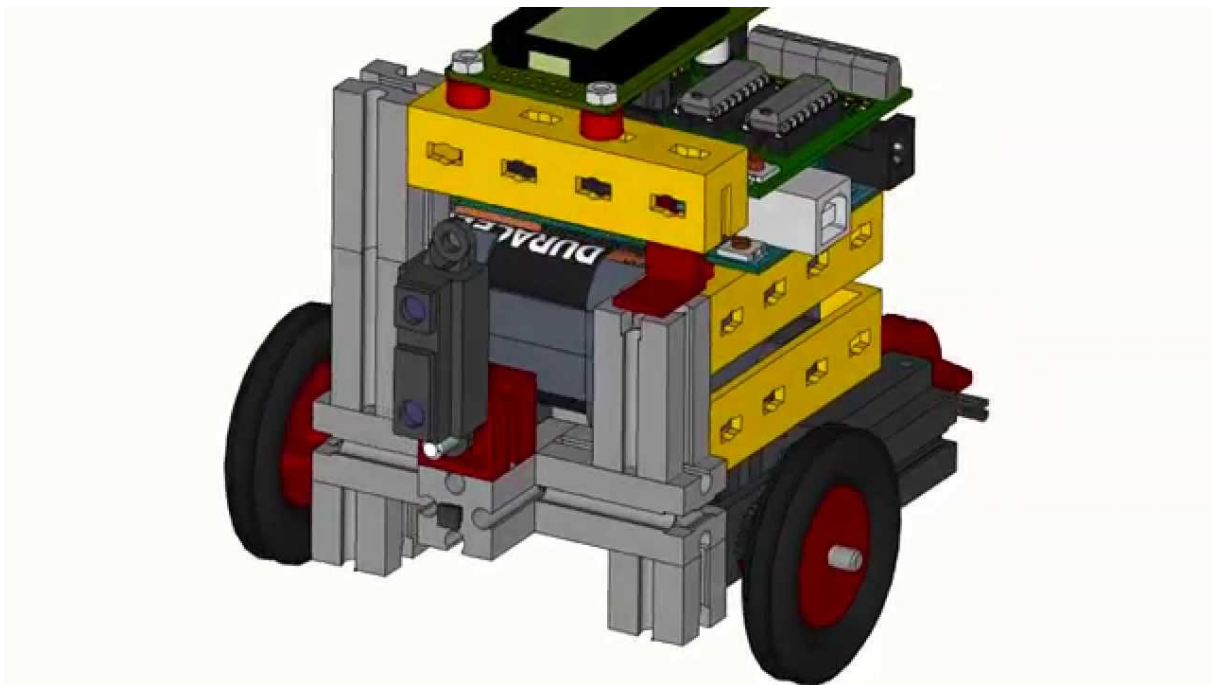

Figure 1: Mounting position of analog distance sensor.
2. Equip the robot with distance sensor according to video and scheme (see fig. 1).